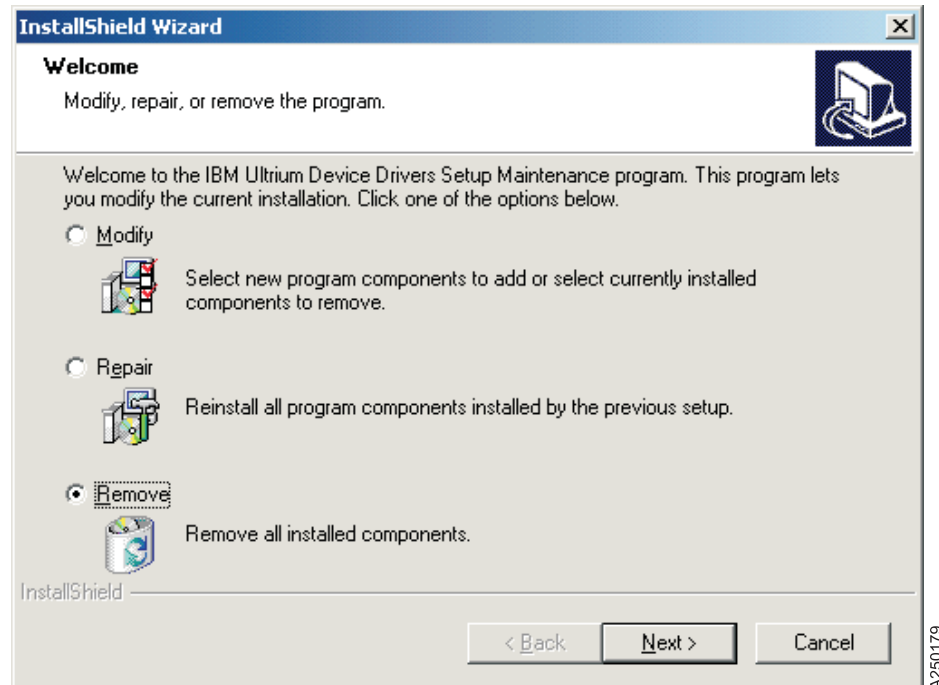

Figure 47. InstallShield Wizard Menu
9. The InstallShield Wizard window opens. Select **Remove**, then click **Next >**. See Figure 47.